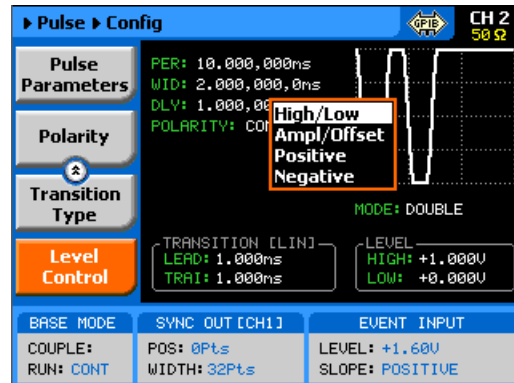

Figure 3-64, Programming the Amplitude Level Mode
4. **Negative.** This option is very useful when you want to vary the negative position of the pulse, but hold the high level fixed at the 0 V level. The example in Figure 3-64 shows the low level set at -1 V and the high level fixed at 0 V. Modification of the low level will not alter the high level position.
To access the PRBS generator menus, press on the Pulse button in the Function group, scroll down the menus and push the Pattern button. The display will be modified to show pattern parameters, as shown in Figure 3-64.
When PRBS mode option has been selected, the main Pattern tabs, as shown in Figure 3-64, will allow access to the following parameters: